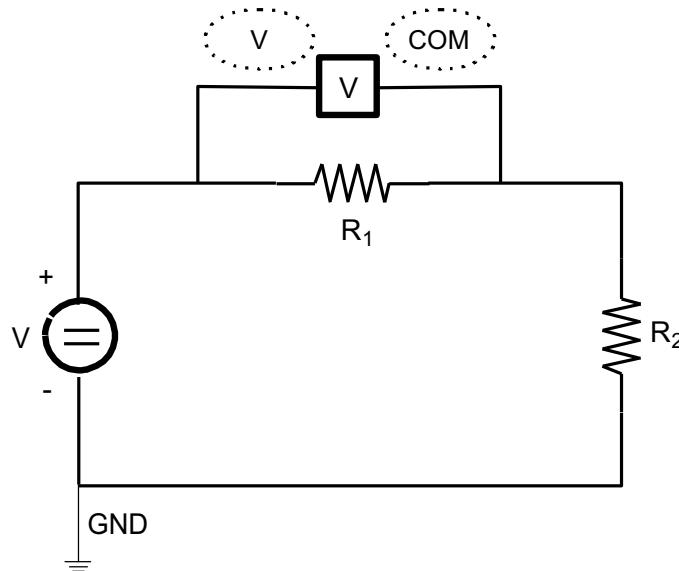

Fig. A-12
- Connect the input terminals (COM) and (V) across the voltage to be measured. Both the (COM) and (V) terminals are isolated from the power ground.
- a) Voltage measurement across a floating resistor (R_1) is shown in Fig. A-12. The polarity sign in the display indicates the polarity of the (V) terminal with respect to the (COM) terminal.